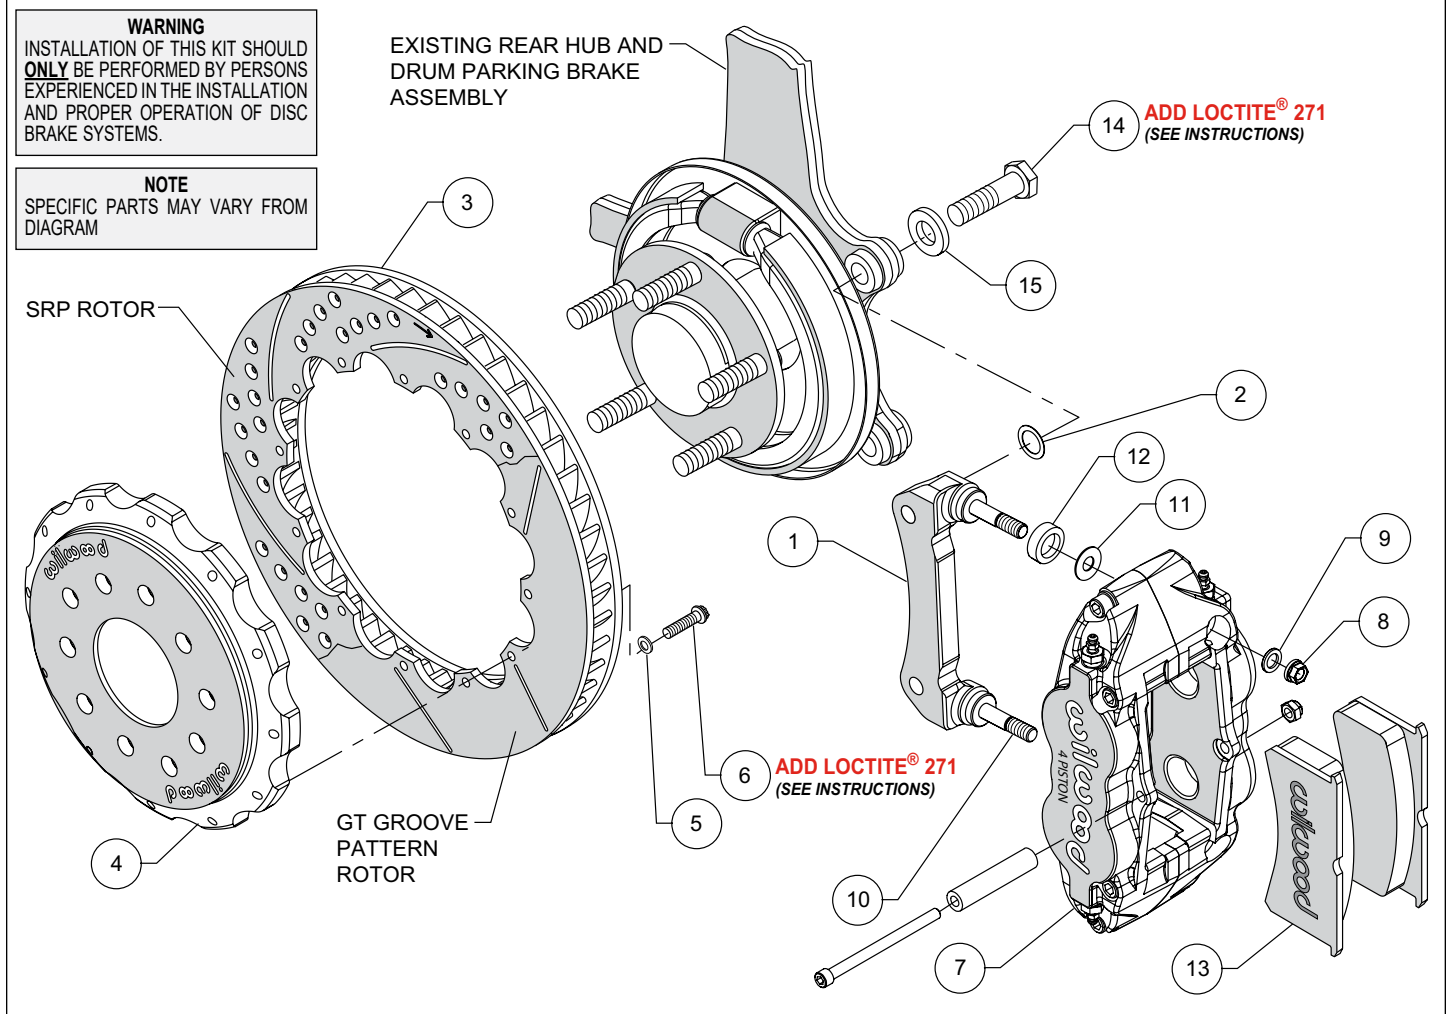
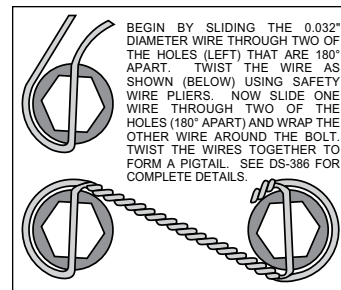

Figure 1. Typical Installation Configuration
Figure 3. Safety Wire Diagram
NOTE: Numbers in parenthesis refer to the parts list and Figure 1 on the preceding pages.
- The caliper mount bracket (1) should initially be installed with clean, dry threads on the mounting bolts. Orient the bracket, as shown in Figure 1 and install using bolts (14) and washers (15). Initially place one .029" thick shim (2) on each bolt between the bracket and upright, Figure 1. Temporarily tighten the mounting bolts. **NOTE:** The bracket must fit squarely against the mount bosses on the upright. Inspect for interference from casting irregularities, machining ridges, burrs, etc. Later, after the caliper alignment has been checked, the mount bolts will be secured using red *Loctite*® 271.
- Orient the rotor (3) and the hat (4) as shown in Figure 1 and Photo 1. Attach rotor to hat using bolts (6) and washers (5). Apply red *Loctite*® 271 to the bolt threads and torque to 155 in-lb using a criss-cross pattern. For an added measure of security, the bolts may be safety wired using standard 0.032 inch diameter stainless steel safety wire as shown in Figure 3. Refer to Wilwood's data sheet DS-386 (available at www.wilwood.com/Pdf/DataSheets/ds386.pdf) for complete safety wire installation instructions.
- Initially place one .035" thick shim (11), and spacer (12) on each stud (10) as shown in Figure 1 and Photo 2. Mount the caliper (7) onto the bracket (1) using lock nuts (8) and washers (9), Figure 1. Temporarily tighten the lock nuts and view the rotor through the top opening of the caliper. The rotor should be centered in the caliper, Photo 3. If not, adjust by adding or subtracting shims (2) between the bracket and the upright. Always use the same amount of shims on each of the two mounting bolts. Once the caliper alignment is correct, remove the bracket mounting bolts (14) one at a time, apply red *Loctite*® 271 to the threads, and torque to 77 ft-lb.